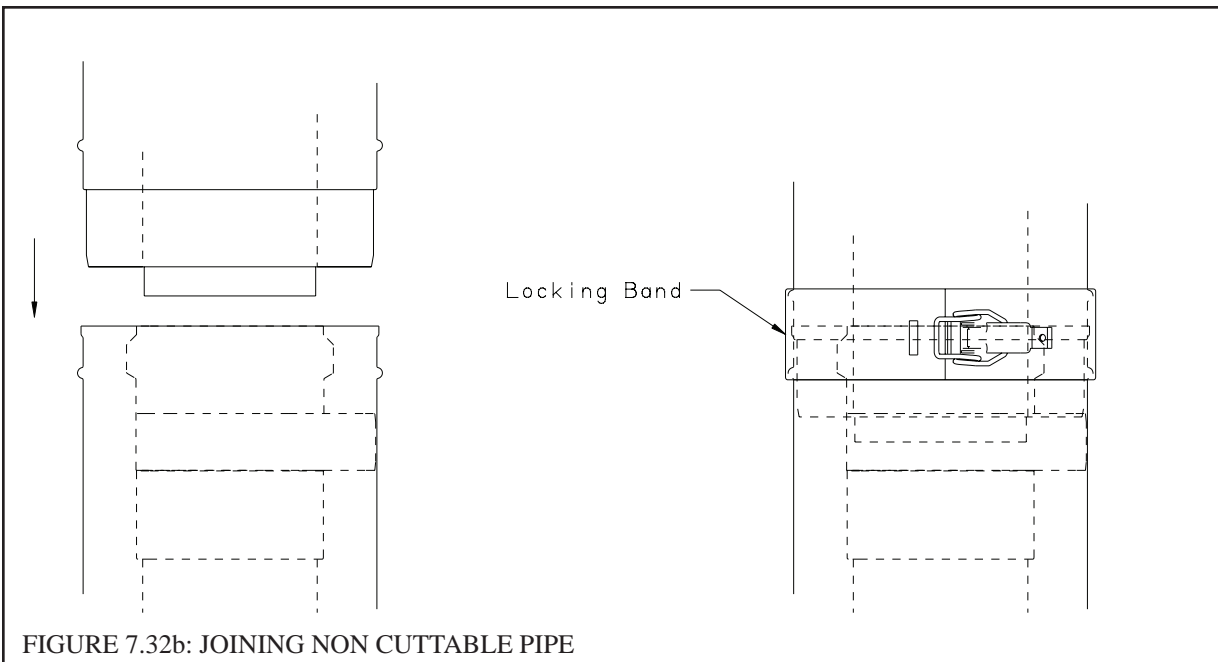

FIGURE 7.32b: JOINING NON CUTTABLE PIPE
- b) Push the male end of the first fitting into the boiler collar until it bottoms out. The male end of cuttable sections should go 1" into the collar until the insertion mark (made in Step 2d above) is covered. On other fittings, the bead on the male pipe will bottom out on the collar (Figure 7.32b).
- d) Use locking bands (provided with all fittings) to secure non-cuttable pipe, as well as fittings, to the boiler collar (Figure 7.32b).